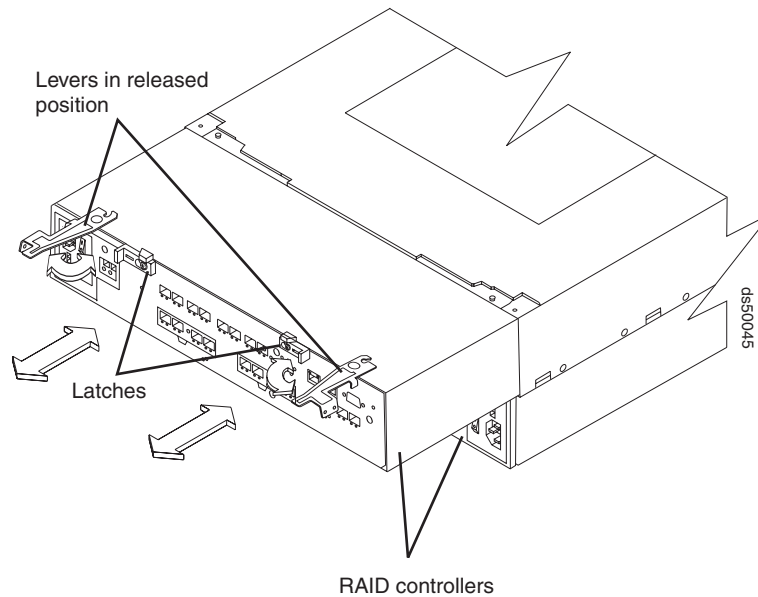

Figure 123. Removing a controller from the DS5100 or DS5300
12. Release the controller levers and remove the controller. Figure 123 on page 197 shows the controller sliding from the storage subsystem chassis.